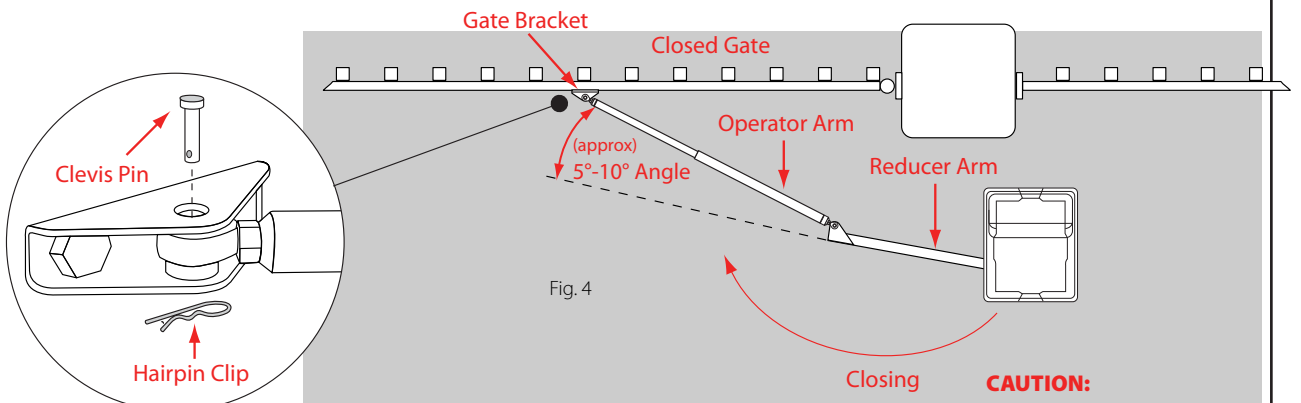

Fig. 4
5. Manually move gate to the closed position. (Fig. 4)
6. Unfold the arm to approximately a 5-10° angle. (Fig. 4)
7. Use 'CLOSE' button on control board to move operator arm/reducer arm to the gate. **CAUTION:** Be careful not to stand in the gray area surrounding the operator. (Fig. 4) Be prepared to stop (using the 'STOP' button) when the gate arm and reducer arm near the desired position.